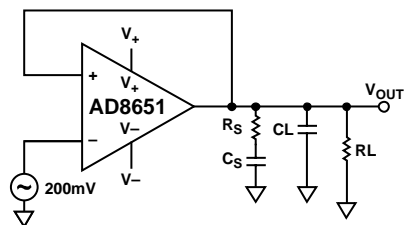

Figure 56. Snubber Network
2) Another way to stabilize an op amp driving a large capacitive load is to use a snubber network, as shown in Figure 56.
Because there is not any isolation resistor in the signal path, this method has the significant advantage of not reducing the output swing. The exact values of R_S and C_S are derived experimentally. In Figure 56, an optimum R_S and C_S combination for a capacitive load drive ranging from 50 pF to 1 nF was chosen. For this, $R_S = 3 \Omega$ and $C_S = 10 \text{ nF}$ were chosen.